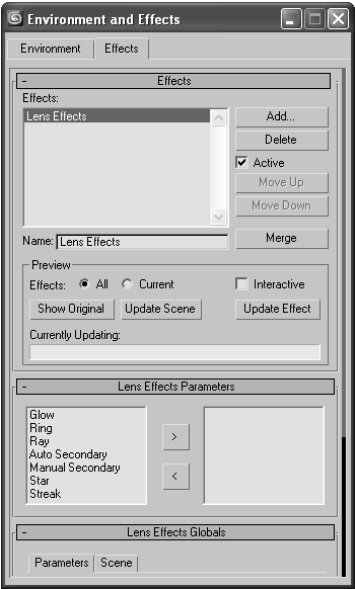

Figure 11.25
4. In the Menu Bar, choose Rendering → Effects to open the Environment and Effects window. Click the Add button. Then pick Lens Effects from the Add Effect dialog box. Figure 11.25 shows that the Lens Effects have been added.